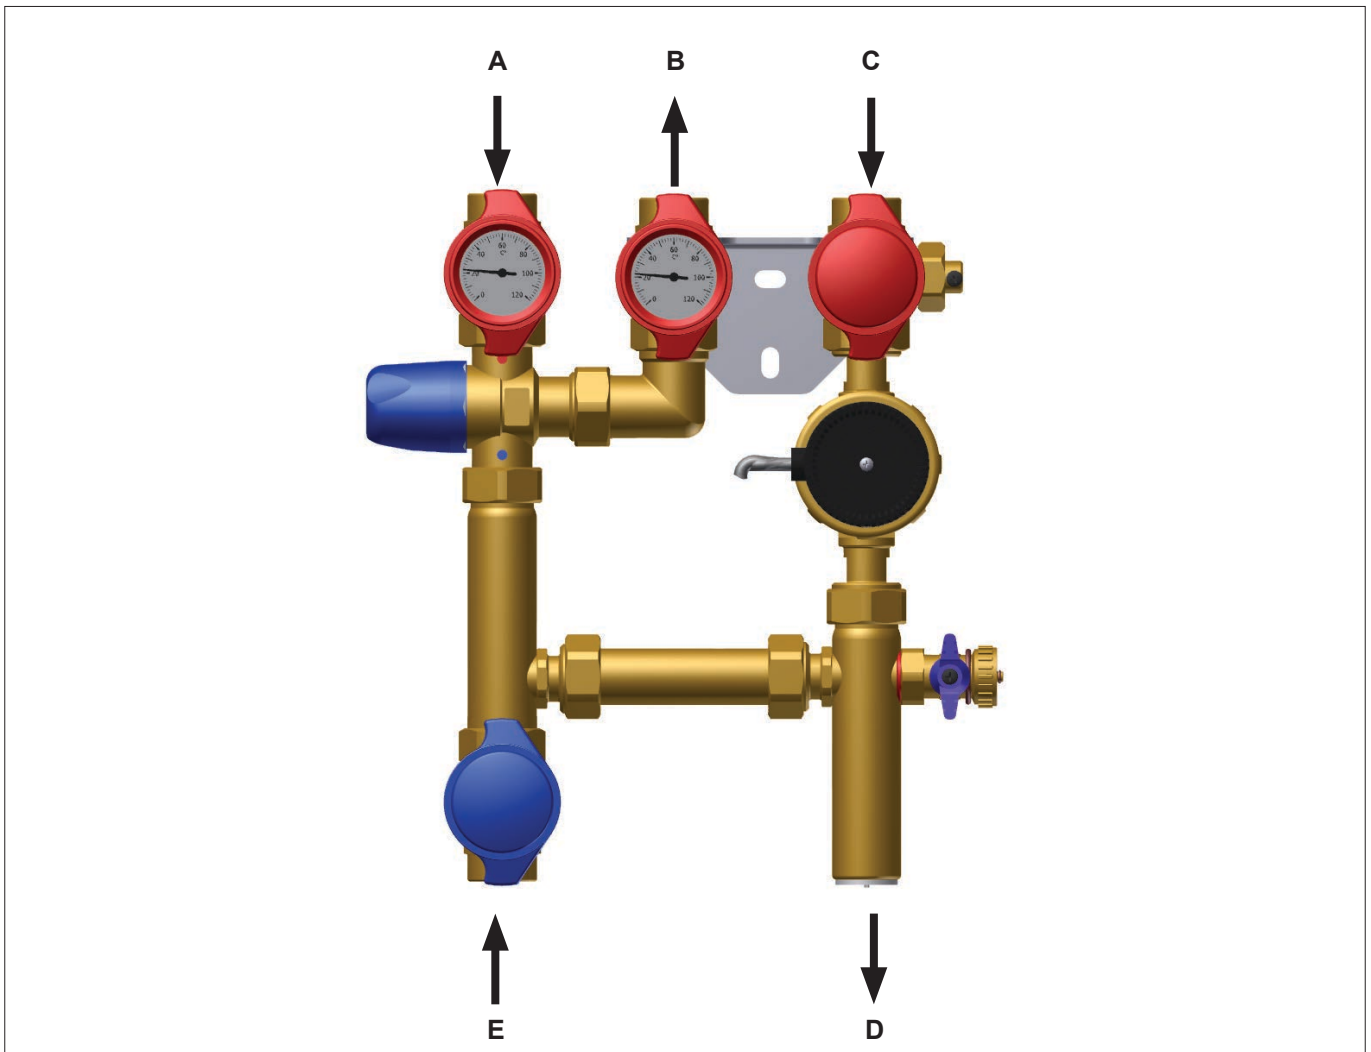

Fig. 4: Water connection Flowbox Circu
- Place the piping sets and secure them with the nuts (fig,Abb. 4 on page 11).
- Close the hot water intake (Pos. A, fig. 4 on page 11), the mixed water outflow (Pos. B, fig. 4 on page 11), the circulation return (Pos. C, fig. 4 on page 11), the circulation return to the storage (Pos. D, fig. 4 on page 11) as well as the cold water intake (Pos. E, fig. 4 on page 11) on.
- Slowly open the hot water intake (Pos. A, fig. 4 on page 11), the mixed water outflow (Pos. B, fig. 4 on page 11), the circulation return (Pos. C, fig. 4 on page 11), the circulation return to the storage (Pos. D, fig. 4 on page 11) as well as the cold water intake (Pos. E, fig. 4 on page 11) on.